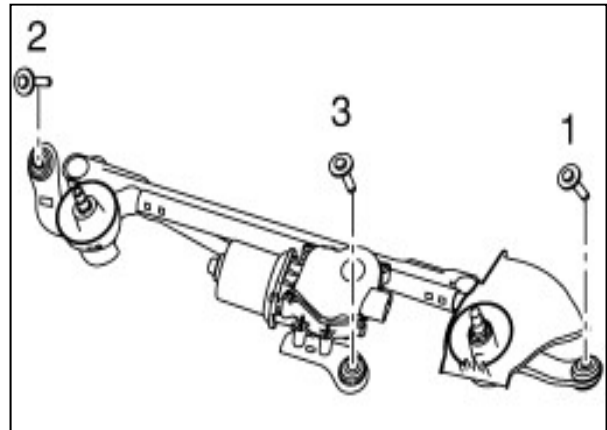

Figure 24
- Torque the wiper drive assembly bolts in the sequence shown in Figure 24.